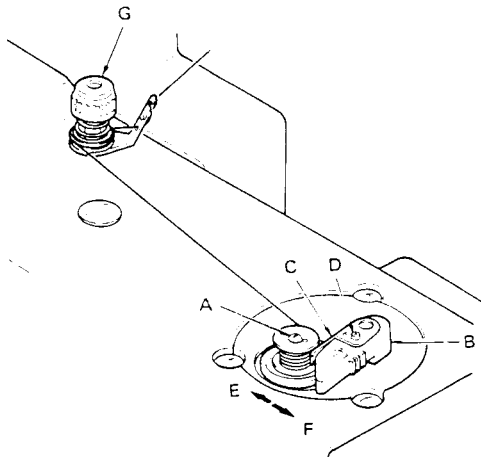

Fig. 14
- Place bobbin on spindle **A** of bobbin winder, pushing it on as far as it will go and pass the thread from the left spool on the thread unwinder through threading points as shown in Fig. 14. Wind end of thread around the bobbin a few times and press latch **B** against the bobbin, then start the machine. The bobbin winder will stop automatically when bobbin is fully wound.